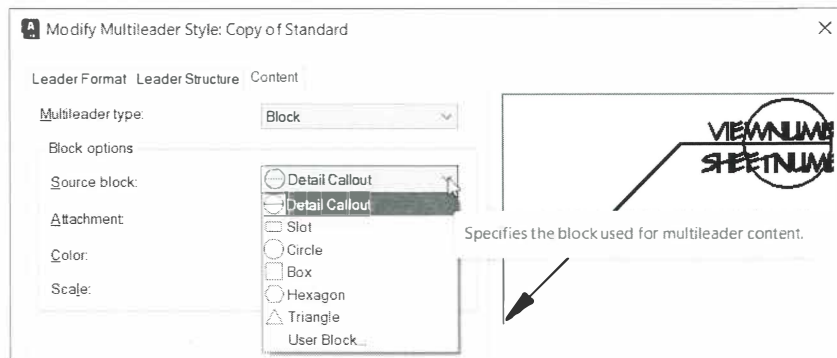

Figure 9-23
8. When you use the **Block** Multileader type, you can select from a variety of preset blocks with attributes or use your own blocks, as shown in Figure 9-23.